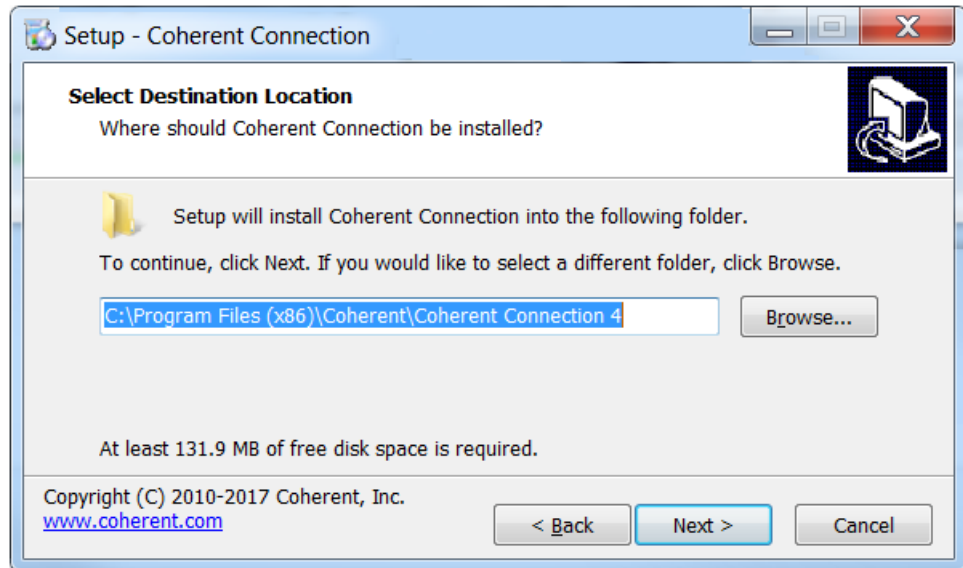

Figure 4-5. Select Directory to Install Software
8. The window shown in Figure 4-5 is displayed. Accept the selection, or browse to select the directory on the computer where you want to install the software, and click Next.